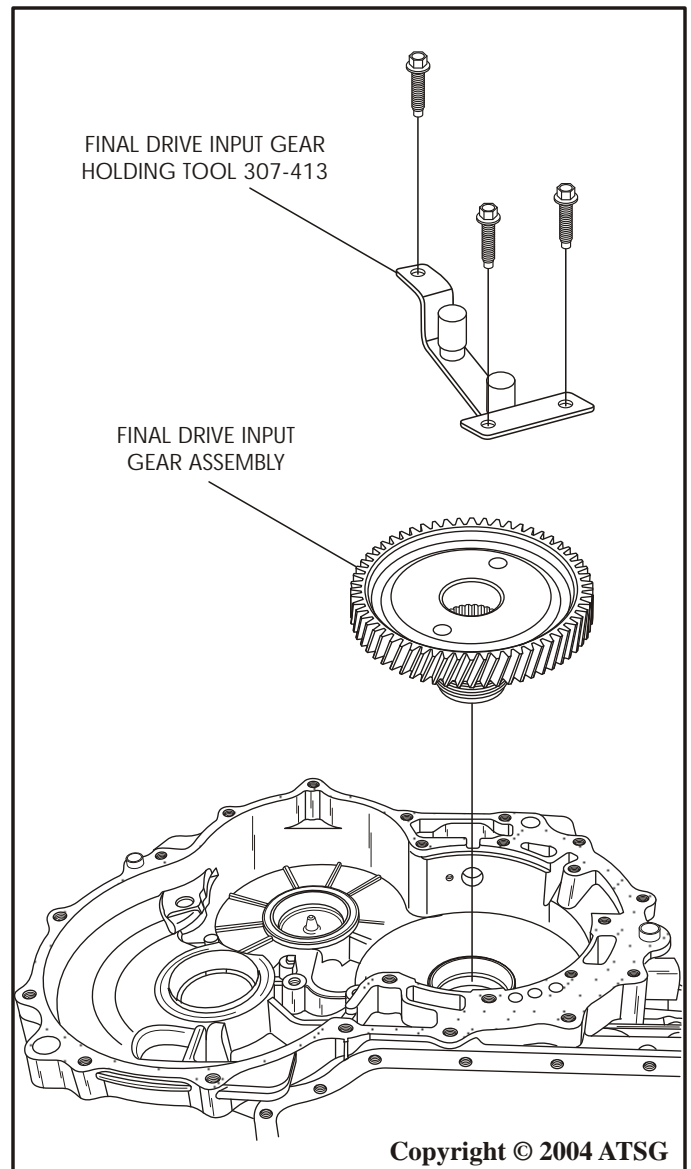

Figure 123
27. Rotate transaxle case in fixture 180 degrees, as shown in Figure 123.
28. Install the final drive input gear assembly into transaxle case, as shown in Figure 123.
29. Install the final drive input gear holding tool 307-413, as shown in Figure 123, and tighten all three bolts.